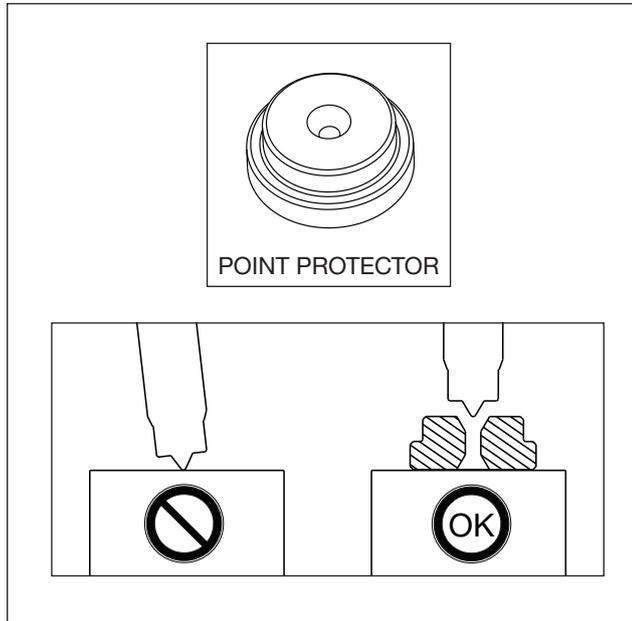

Figure 3, Point Protector
- Models SGM01 SGM04 and SGM07 feature a standard adjusting rod, with a tempered non-retractable point. These models **MUST** be used with a point protector if the shaft end does not contain a drilled center hole. See Figure 3.